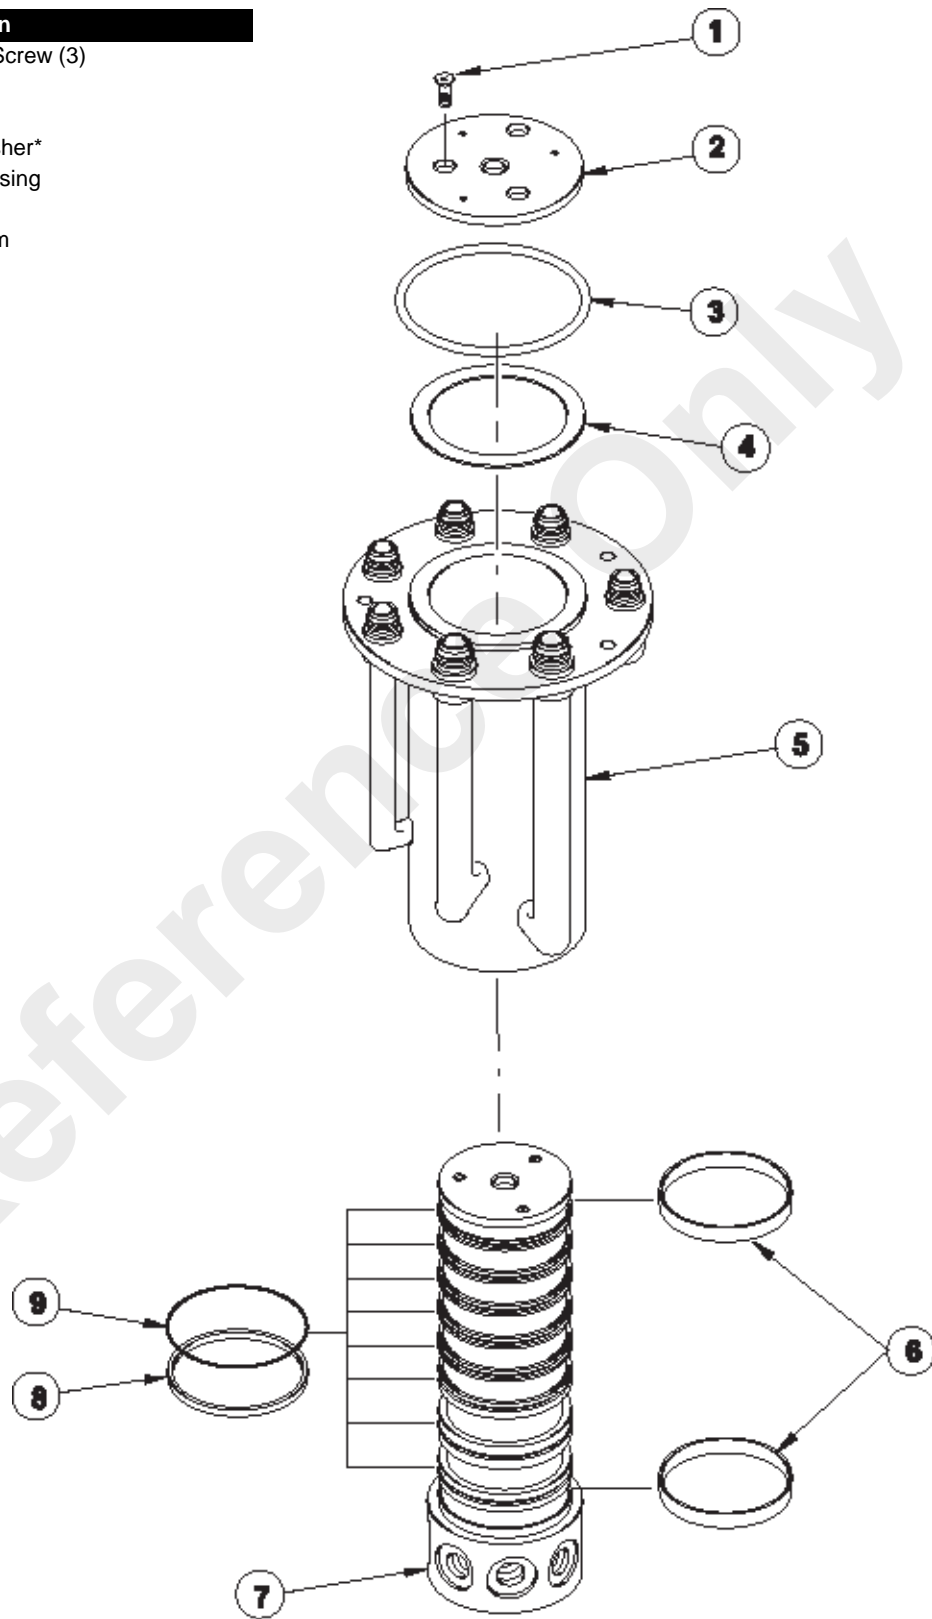

FIGURE 4-79
1. Remove the three hex socket flat head cap screws (1, Figure 4-79) from flange (2). Remove the flange (2), O-ring (3) and thrust washer (4). Discard the thrust washer and the O-ring.
2. Carefully pull the swivel stem (7) from swivel housing (5). If the swivel can not be pulled from the housing, hit the top of the swivel stem with a soft hammer.
3. Remove and discard seals (6), seals (8) and O-rings (9).
2. Place the swivel stem (7, Figure 4-79) on the work bench in the vertical position.
3. Walk the lower seal (6) down the swivel stem one flow groove at a time until it reaches the swivel stem base. Carefully work the seal until it slips into the seal groove at the swivel stem base.
4. Install one O-ring (9) into each of the seal grooves of stem (7). Make sure that the O-ring is not twisted in the groove.
5. Slip one seal (8) over the top of the spool and walk the seal down the swivel one flow groove at a time until it reaches the bottom seal groove.
11. Install the top seal (6, Figure 4-79) to stem (7).
12. Place the swivel housing (5) on the work bench with bottom of the housing up. Lubricate the lower 1/4 of the bore of the swivel housing with hydraulic oil.
14. Install thrust washer (4), O-ring (3) and plate (2).
15. Install three hex socket flat head cap screws (1) and tighten to a torque of 41 Nm (30 lb-ft).